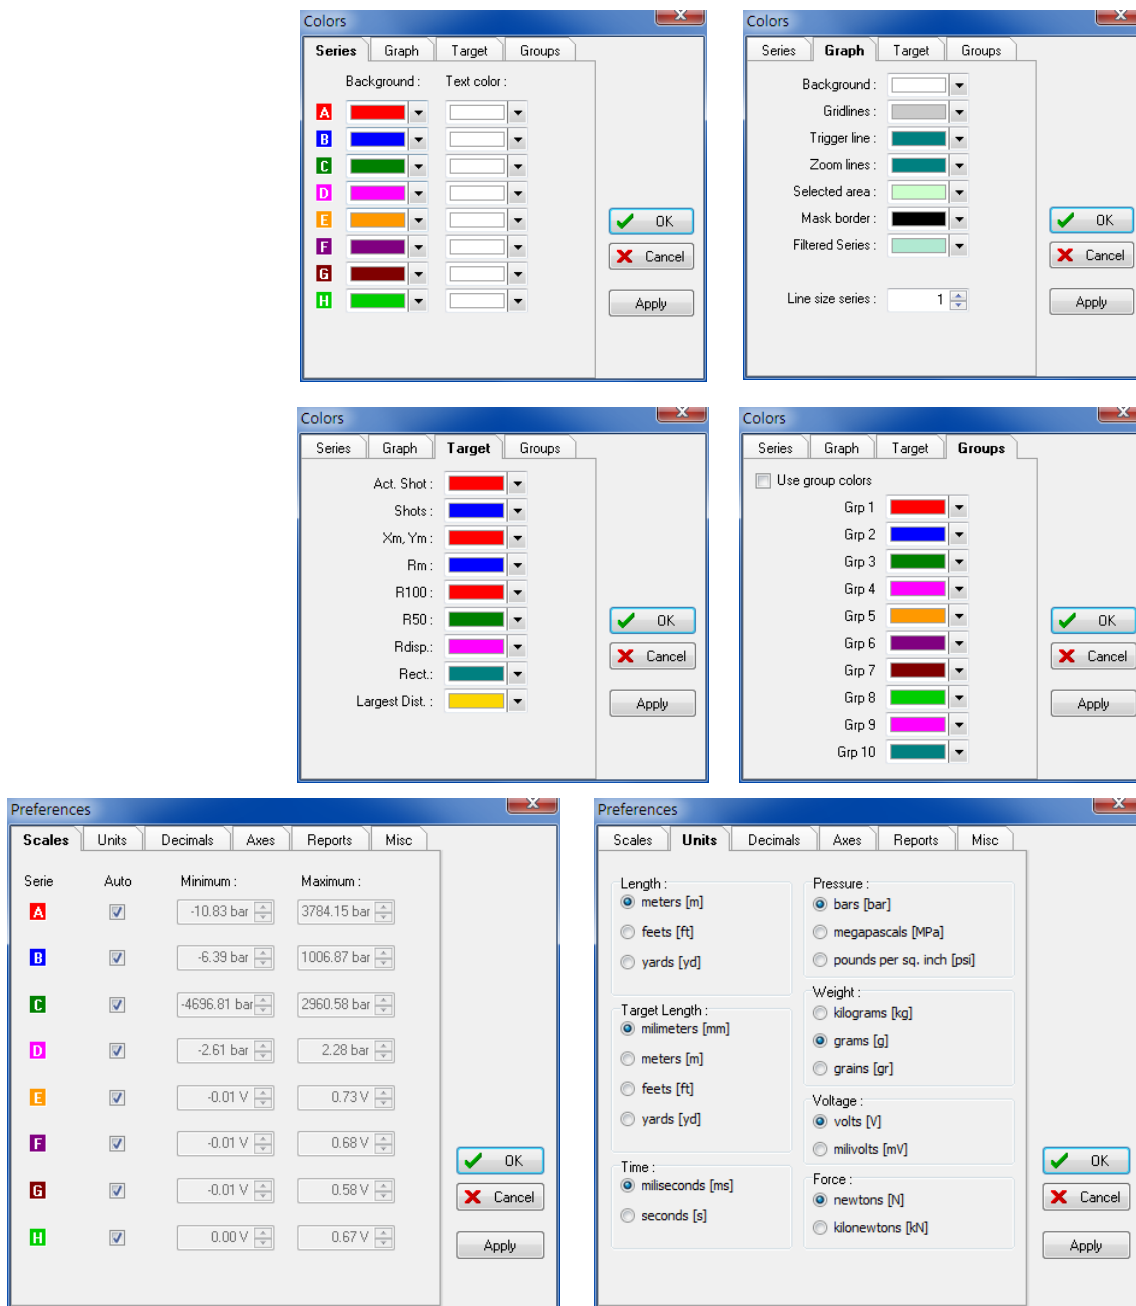

Fig. 8: Basic settings
- Check Settings > Colors, Preferences (Fig. 8 and 9). The reason of single items will be explained later, the setting should be according the picture. Grey (inactive) items has noeffect and their adjustment does not matter. Then it is necessary to assign channels A - H into relevant graphs by means of button according to picture Fig. 10